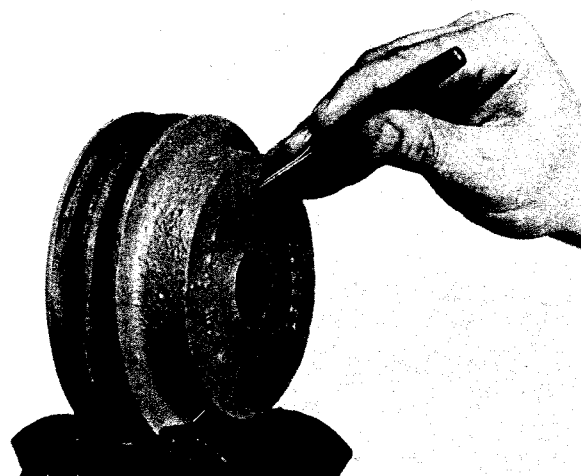

Fig. 8-17, (N10865). Drive wear sleeve from pulley
7. Inspect wear sleeve; if worn or damaged cut a groove part way through using a special "angled" chisel. Using a small punch through a puller hole, drive sleeve off. Fig. 8-17.